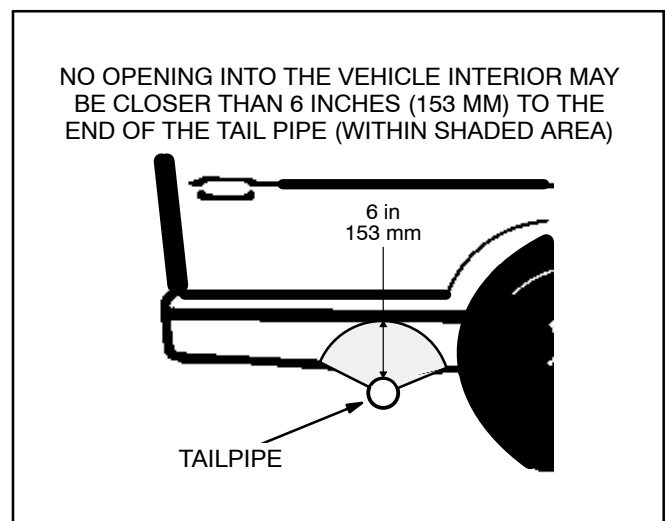
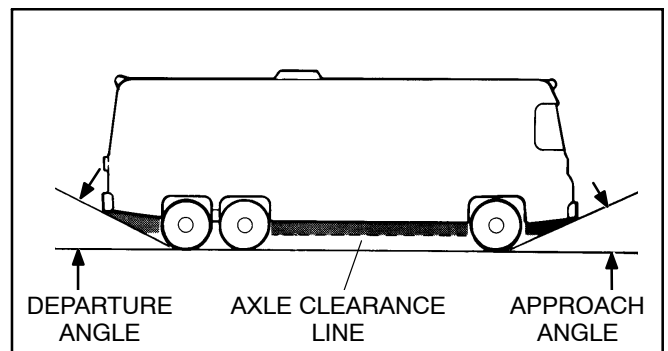

FIGURE 3-5. MINIMUM DISTANCES TO OPENINGS
FIGURE 3-6. VEHICLE CLEARANCES
Below-floor mounting kits are available from Onan. Carefully follow the instructions in the kit. Reinforce a plywood or particle board floor with steel to resist the dynamic weight of the genset. Do not mount the genset within the approach or departure angles of the vehicle or below the axle line (Figure 3-6).
⚠ WARNING ***EXHAUST GAS IS DEADLY! To keep exhaust gases from entering the vehicle do not terminate the exhaust tailpipe underneath the vehicle or closer than specified to openings into the vehicle (Figure 3-5) or route it such that it is likely to be damaged (Figure 3-6). Use approved materials and parts only.***
8. Do not terminate the tailpipe such that it is closer than 6 inches (153 mm) to any opening into the vehicle interior (door, window, vent). See Figure 3-5.
10. Route the tailpipe such that it is not likely to be struck when the vehicle is moving. Keep it out of the approach and departure angles of the vehicle and above the axle clearance line (Figure 3-6).